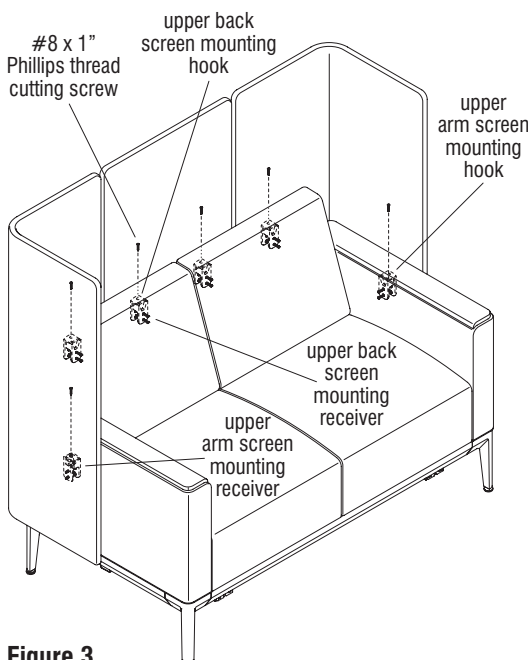

Figure 3
7. Proceed with screen removal at the top, front of the lounge and locate the upper screen mounting hook and receivers securing the screen to the lounge unit. Between the back of the lounge and the front face of the screen, remove a #8 x 1" Phillips thread cutting screw per upper screen mounting hook using a Phillips screwdriver with an 8" long extension. Set the screws aside for reinstallation at a later step (Figure 3 & Detail D).